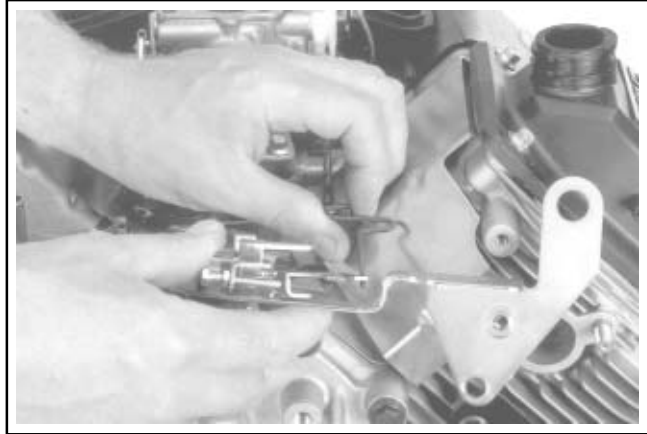

Figure 11-80. Connecting Choke Linkage.
1. Connect the choke linkage to the carburetor and choke actuator lever. See Figure 11-80.